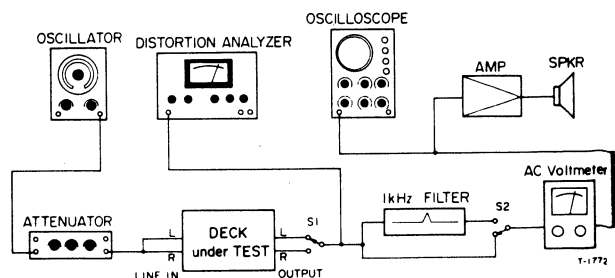

Fig. 5-1 Basic test setup
16. Erase efficiency	<ul style="list-style-type: none"> • Connection is same as in Fig. 5-1, but engage 1-kHz filter. • Record a 1-kHz signal. Rewind tape to midpoint of recorded portion. Record a "no signal" portion. Find the difference between the 1-kHz portion and the "no-signal" portion.
17. REC MUTE function	<ul style="list-style-type: none"> • Connection: Fig. 5-1, but engage 1-kHz filter. • Record a 1-kHz signal. Push REC MUTE button for several seconds. Rewind and play the tape. Find the difference between the 1-kHz portion and the "no-signal" portion.
18. Channel separation	<ul style="list-style-type: none"> • Connection: Fig. 5-1, but do not connect LINE IN (R), and engage 1-kHz filter. • Set the deck to record mode. Find the difference between the 1-kHz recorded portion (L-ch) and the "no signal" portion (R-ch).
19. Adjacent track crosstalk	<ul style="list-style-type: none"> • Connection: Fig. 5-1, but do not connect LINE IN (L) and OUTPUT (L). • Record a 125-Hz signal on R-ch and note output level. Invert tape and play R-ch track. Check leakage level against the output reference of previously recorded portion.